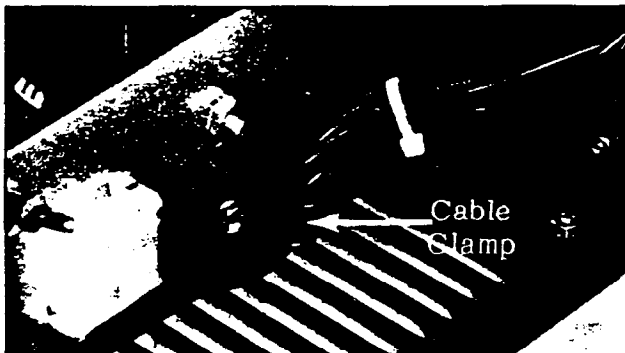

FIGURE 12—HARNESS CABLE CLAMP
02.17 The harness is loosely secured to the chassis with a cable clamp (Figure 12); the clamp will allow slight harness movement.